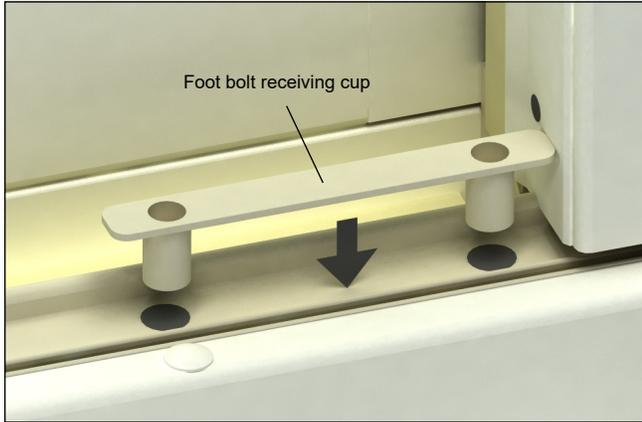

Figure 4
5. Install the foot bolt receiving cup. Peel tape off of back of receiving cup and place onto corresponding holes. See figure 4.